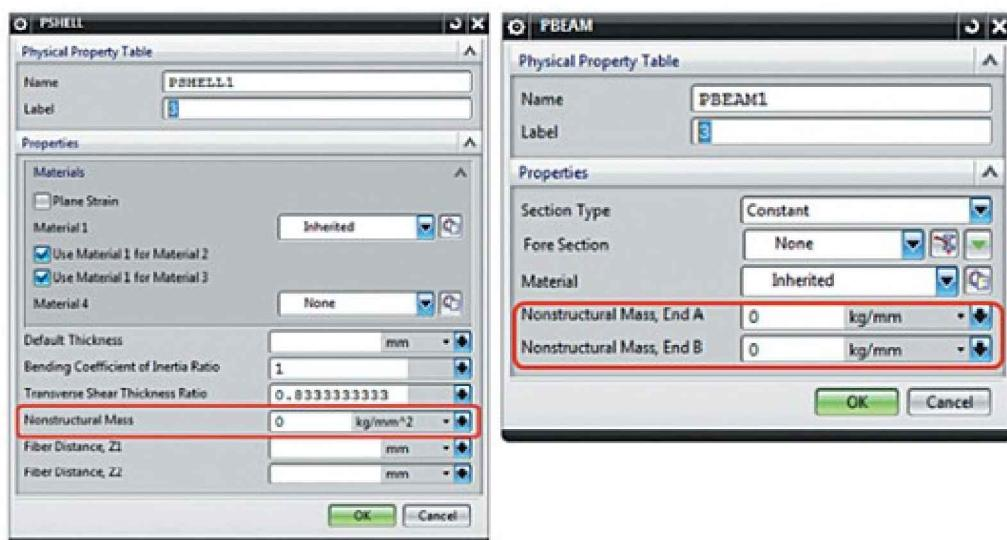

Figure 3.2. Specifying non-structural mass
- If stiffness properties of some additional elements can be neglected but their weight is substantial (for example, the weight of snow cover or thermal insulation), the so-called non-structural mass is used. This type is defined for 1D finite elements as a value characterizing the ratio of mass to length, and for 2D finite elements as the ratio of mass to area. Nonstructural mass is specified in the corresponding dialog box when you set up physical properties of finite elements (for example, *PSHELL* for shell 2D elements, *PBEAM* for 1D elements) (Figure 3.2), or in the **NSM** (non-structural mass) field of *PSHELL* or *PBEAM* cards [7, 8].